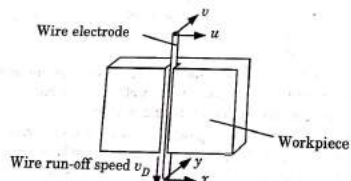

Fig. 5.12.1.
5. Here, the upper guide of the unwinding wire tool electrode is relatively adjustable in the u and v directions (Fig. 5.12.1) to the lower guide.